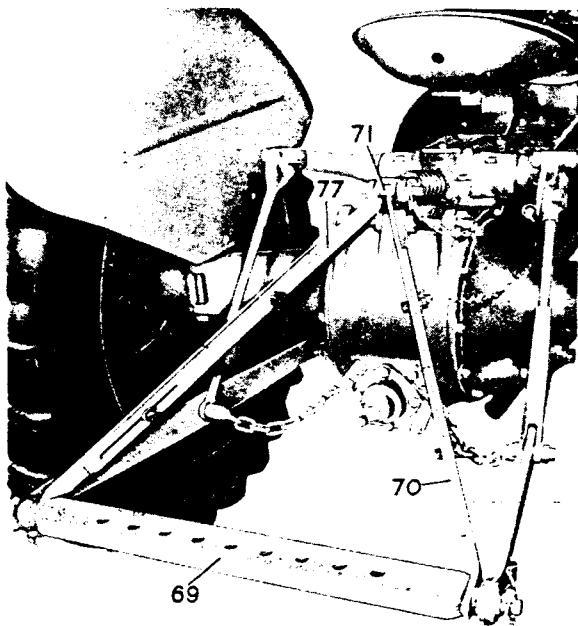

FIG. 26
### DRAWBAR (FIG. 26)
Figure 26 shows the adjustable drawbar (69) mounted to the tractor in the correct manner, with the stay assemblies (70)